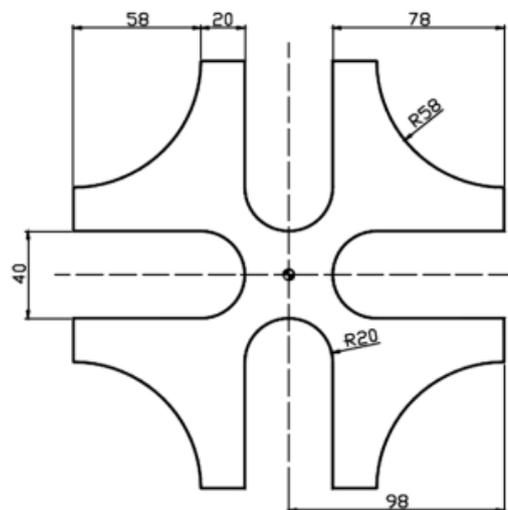

Figure 1
31. Write a manual part program for drilling and milling of a component with 10mm thickness as shown in Fig. 1. Consider 10 mm diameter milling cutter and necessary drill size for drilling operation. Assume suitable spindle speed and feed for drilling and milling operation.
32. Prepare CNC milling part program for figure 1. (Thickness of plate is 15 mm)